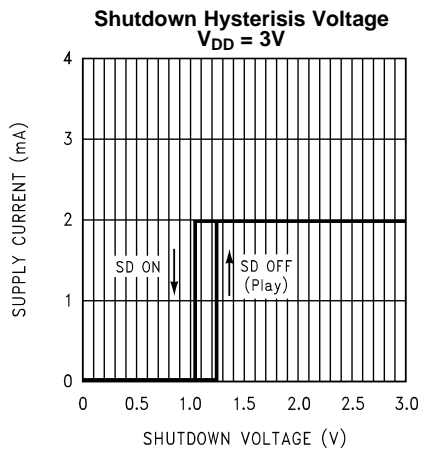
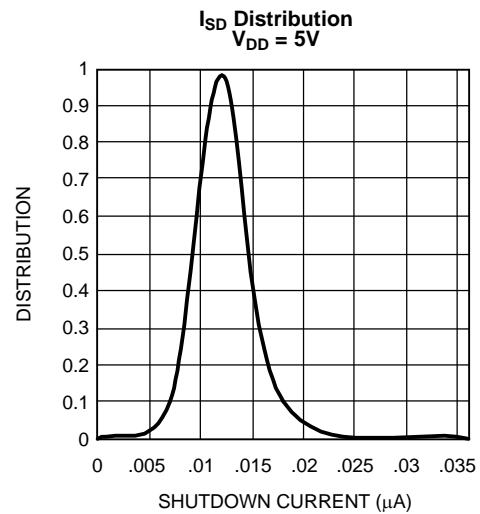

Figure 29.
Figure 30.
- (1) All voltages are measured with respect to the GND pin unless otherwise specified.
- (2) Absolute Maximum Ratings indicate limits beyond which damage to the device may occur. Operating Ratings indicate conditions for which the device is functional but do not ensure specific performance limits. Electrical Characteristics state DC and AC electrical specifications under particular test conditions which ensure specific performance limits. This assumes that the device is within the Operating Ratings. Specifications are not ensured for parameters where no limit is given, however, the typical value is a good indication of device performance.
- (3) Datasheet min/max specifications are specified by design, test, or statistical analysis.
- (4) Typicals are measured at $25^\circ C$ and represent the parametric norm.
- (5) Limits are specified to AOQL (Average Outgoing Quality Level).
- (6) See I_{SD} distribution values shown in the I_{SD} Distribution curves, $V_{DD} = 5V$ and $V = 3V$, (Figure 29 and Figure 30, respectively) shown in the Typical Performance Characteristics section.